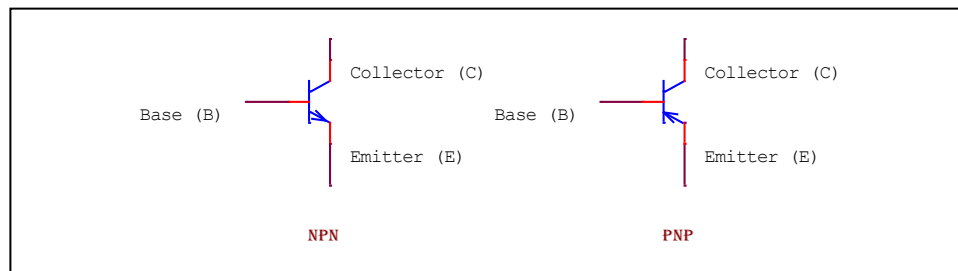

Figure 49: Types of BJTs
Let's start our discussion with BJT circuits. Three terminals of BJT are named as *Base (B)*, *Collector (C)*, and *Emitter (E)*. BJT is a current-controlled current device where base current controls the flow of current from emitter to collector. There are three regions of operation of BJT: *Active Region (BE is forward biased and BC is reverse biased)*, *Saturation Region (both BE and BC are forward biased)*, and *Cut-off Region (both BE and BC are reverse biased)*. Two of the most common applications of transistors are *amplification* and *switching*. There are two types of BJTs: *NPN* and *PNP*. Figure 49 shows circuit symbols of both types of transistor with their terminal names.